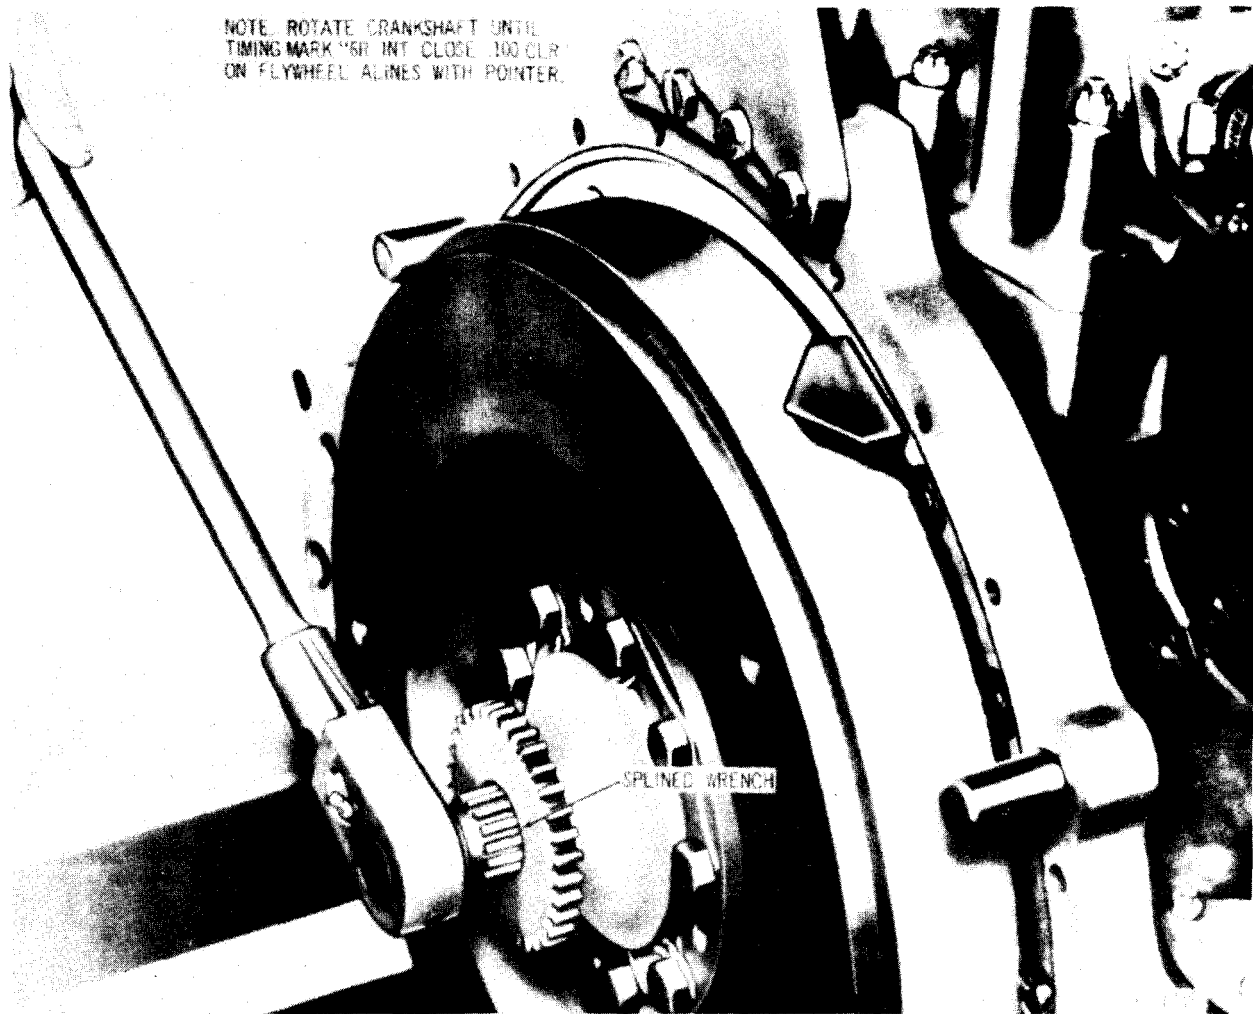
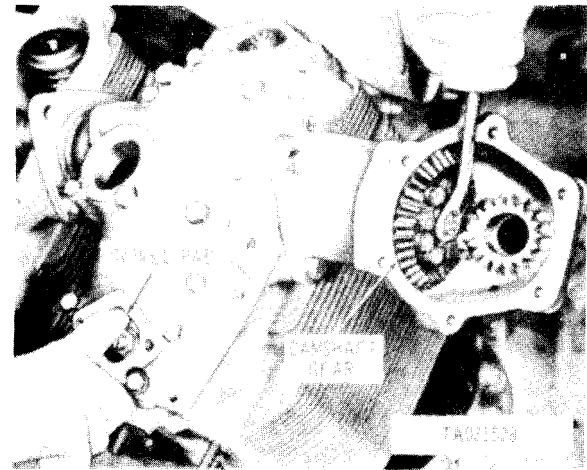
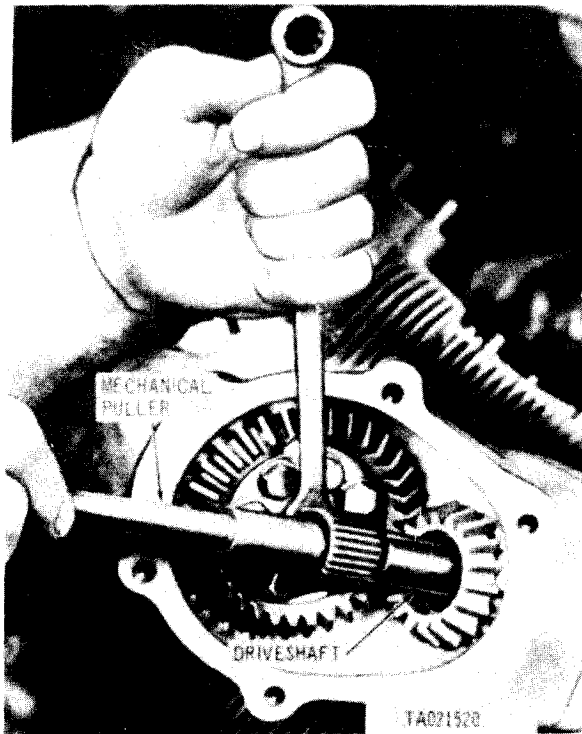

Figure 3-325. Positioning engine flywheel, model AVDS-1790-2C and AVDS-1790-2D engines.
Figure 3-328. Determining closing point of No. 6 intake valve.
Figure 3-329. Installing camshaft drive shaft.
b. Rotate crankshaft until timing mark "6R INT CLOSE .100 CLR" on flywheel aligns with pointer (fig. 3-324) using splined wrench, part number 10882747, (fig. 3-325).
j. Maintain the position of camshaft as set in figure 3-328 and the crankshaft position set in figure 3-325. Insert camshaft drive shaft (fig. 3-329) using mechanical puller part number 8761297, and mate splines on drive shaft with splines in camshaft drive bevel gearshaft. When splines of drive shaft do not mate with splines of camshaft gearshaft, withdraw drive shaft and turn slightly before again attempting insertion.
i. Slowly turn camshaft (fig. 3-328) clockwise, as viewed from flywheel end, until No. 6R intake valve has just closed. Closing point is determined by trying to rotate the swivel pad on the intake valve adjusting screw while the camshaft is being